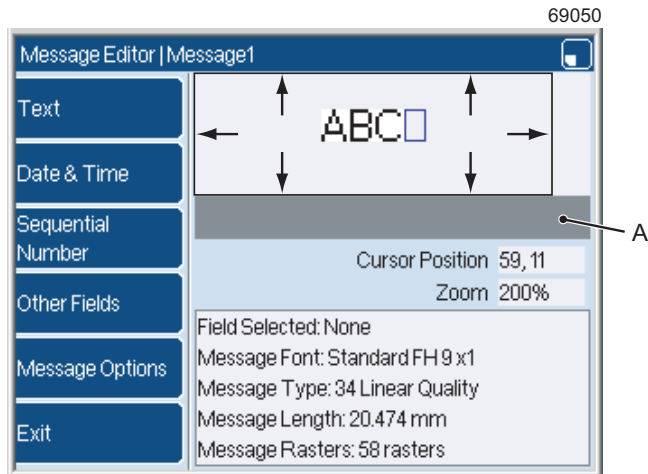

Figure 3-3. Message boundary
Make sure that the new field is within the message boundary. In Figure 3-3, the arrows indicate the message boundary (the white area). The grey area (A) is outside the boundary: